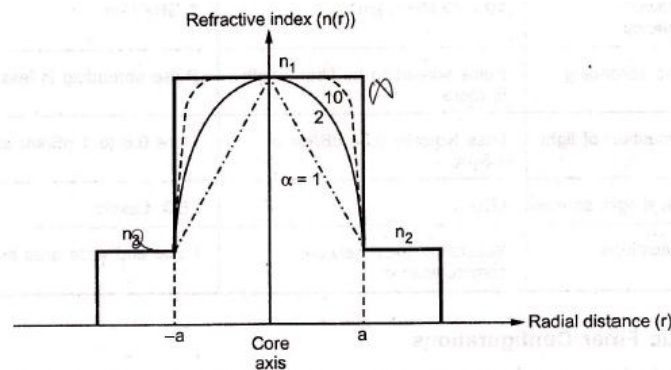

Fig. 1.6.15 Possible fiber refractive index profiles for different values of  $\alpha$
- Profile parameter  $\alpha$  determines the characteristic refractive index profile of fiber core. The range of refractive index as variation of  $\alpha$  is shown in Fig. 1.6.15.